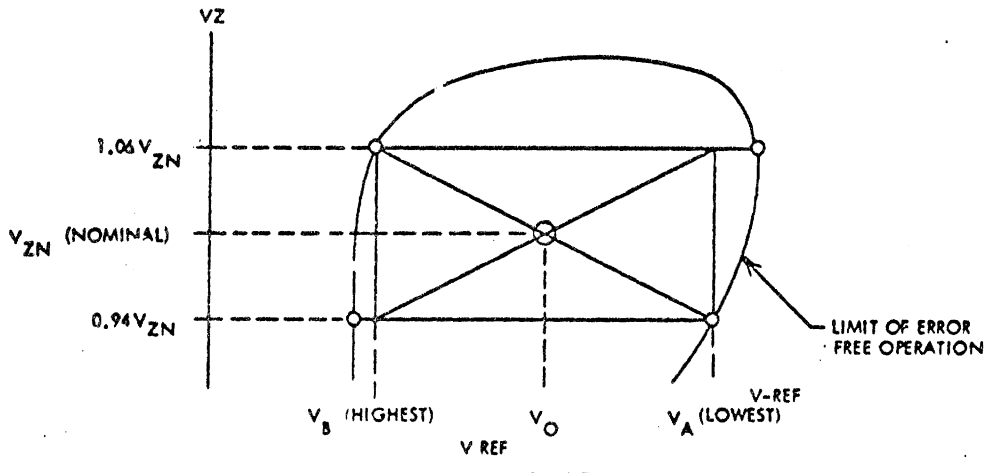

FIGURE 7
5. V_O IS MIDPOINT BETWEEN V_A AND V_B (FIGURE 7). SET VREF 0.15 VOLTS BELOW V_O IF TEMPERATURE IN "C2" IS BELOW 106° F; OTHERWISE SET TO V_O .